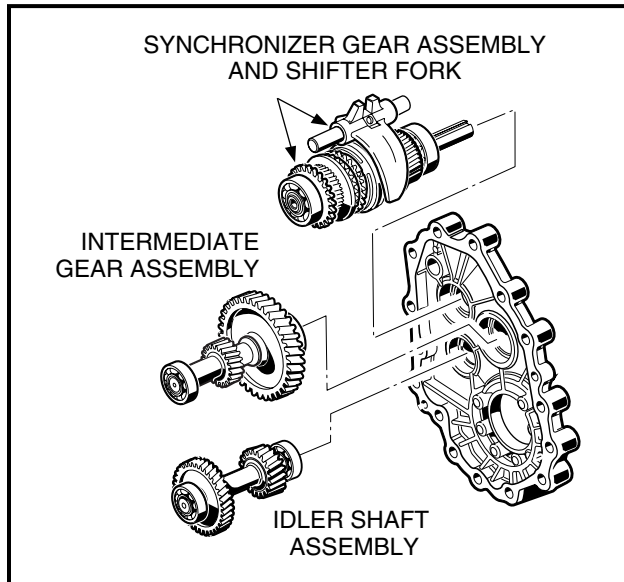

Figure 5-6 Remove Intermediate Gear
7. Continue to rock and loosen the remaining gear assemblies until the intermediate gear assembly can be removed. Remove the idler shaft assembly (**Figure 5-6, Page 5-5**).
8. Remove the synchronizer gear assembly and shifter fork assembly as a unit (**Figure 5-6, Page 5-5**).